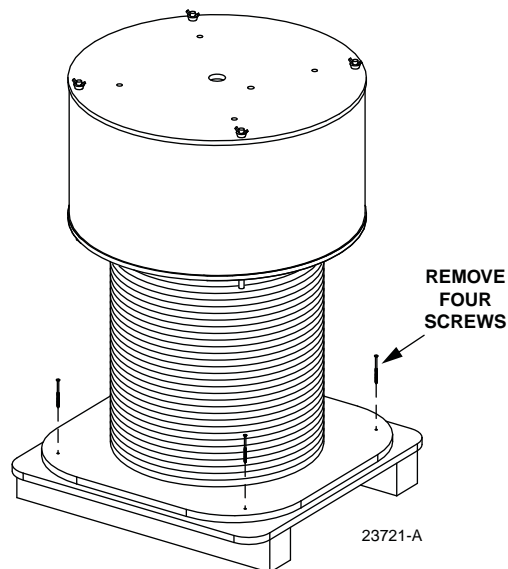

Figure 11. Extracting Connector Module from Hatbox
3. Remove the four screws at the base of the spool as shown in Figure 11.